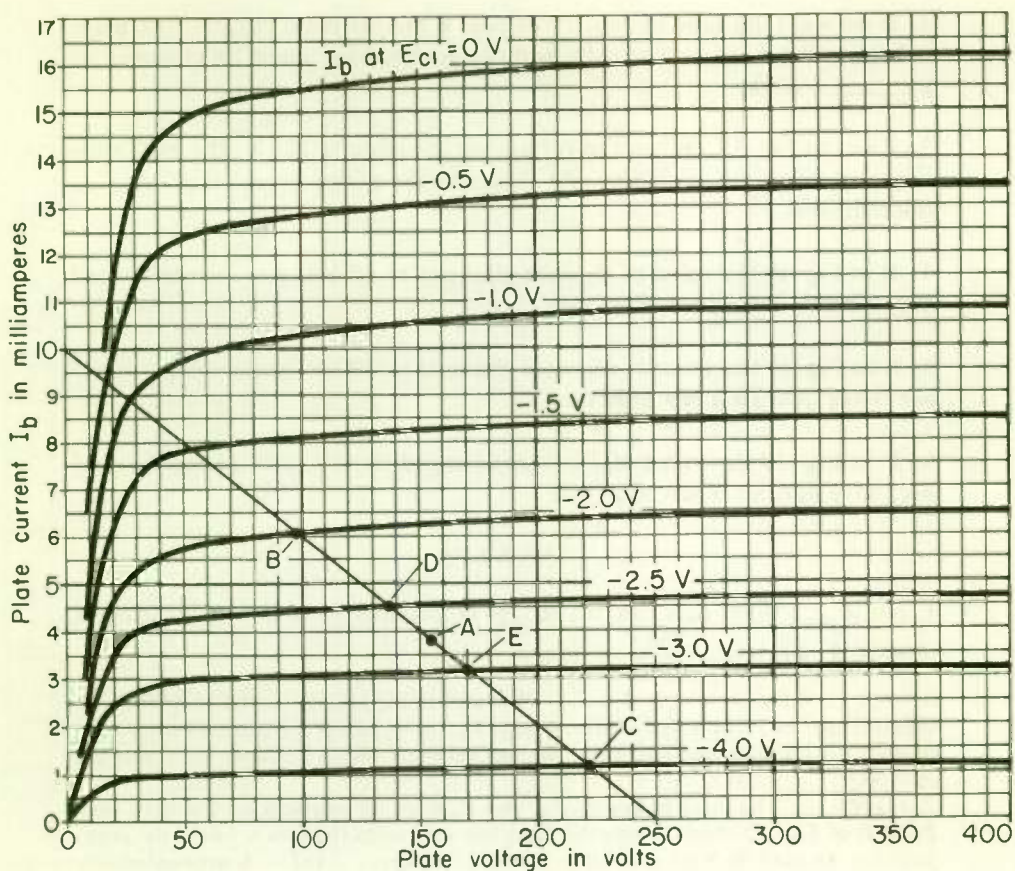

Fig. 20
1. Refer to Fig. 19. To draw a load line on the graph for the circuit shown, the points you use are at zero volts and (a) _____ milliamperes and at (b) _____ volts and (c) _____ milliamperes. Draw the load line and then refer to Fig. 20 to make sure you have done it correctly. When no signal is applied to the tube, the plate current is (d) _____ milliamperes and the plate voltage is (e) _____ volts.
- (b) 250 (c) zero (d) 3.8 . . . The value of the voltage on the grid when no signal is applied is the value of the voltage E_{cc} , or -2.75 V . Figure 20 shows the position of point *A* one-half the distance between the -2.5 and -3.0 curves.
2. (a) 99 . . . The three values I_b , E_b , and E_c must all intersect on the load line. Point *B* of Fig. 20 shows where the load line intersects the 6-mA line. By interpolation we read 99 V as the value of plate voltage. (b) -2 , approximately
3. (a) -4 (b) 1.1 . . . See point *C*, Fig. 20.
4. The operating point of the load line shown in Fig. 20 is labeled (A)(B)(C).
peak value of the input signal voltage is 0.5 V, you know that the input signal voltage varies 0.25 V above and below the reference voltage of -2.75 V when applied to the grid. Thus the voltage at the grid will vary between -2.5 and -3 V. Maximum instantaneous plate current will occur when the instantaneous grid voltage is at its most positive value, which is -2.5 V. Using the load line, we can see that the load line and the -2.5 -V curve intersect at the 4.5-mA line, point *D*, Fig. 20.
(b) 3.1 mA, point *E*, Fig. 20; (c) 170 V; (d) 136 V
7. Refer to Fig. 20. Assume the pentode tube is biased at -2 V and the input signal applied to the pentode has a peak value of 2 V, will the output waveform be distorted?
8. Refer to Fig. 20. If D were the operating point of the pentode, to what value would you limit the peak value of the pentode input signal to avoid distortion?
1. (a) Equal to (b) Equal to . . . See Fig. 20. As you have learned previously in this lesson, the tube operating between points D and E , with A as the operating point, produces equal-current positive and negative swings, so that the average value of plate current with signal applied is the same as the no-signal d-c value of plate current. The same is true for the plate voltage.